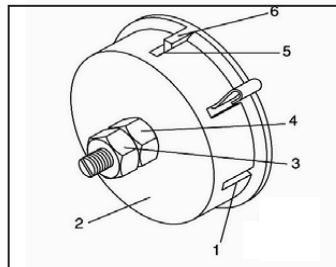

Figure 15B
- 5.7 Replace the lock nut (3) and tighten against the inner nut (4) to prevent the inner nut from reversing. **See Fig. 15B and 15C**